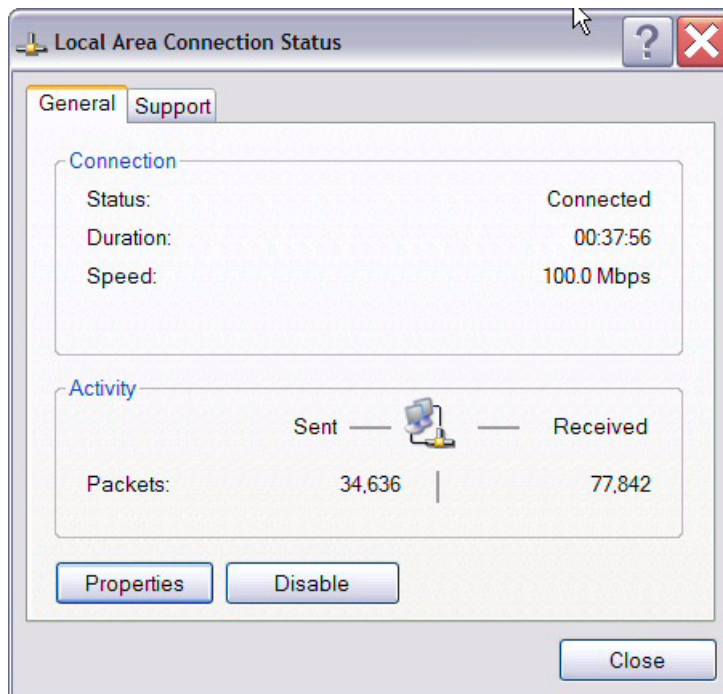

Figure 3. Local Area Connection Status Window
2. In the panel labeled **LAN or High-Speed Internet**, double-click the **Local Area Connection** icon. The **Local Area Connection Status** window appears, see Figure 3.